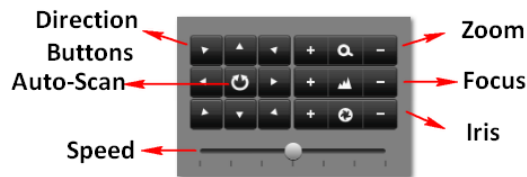

Figure 114 PTZ Controls Button
4. Using the Directional buttons and other PTZ control buttons (Zoom +/-, Focus +/-, Iris +/-, the speed of the PTZ movement), test the functionality of the PTZ camera. If PTZ camera and protocol supports it, you may also click the Auto-Scan button to test its function. PTZ controls buttons are shown in Figure 114.